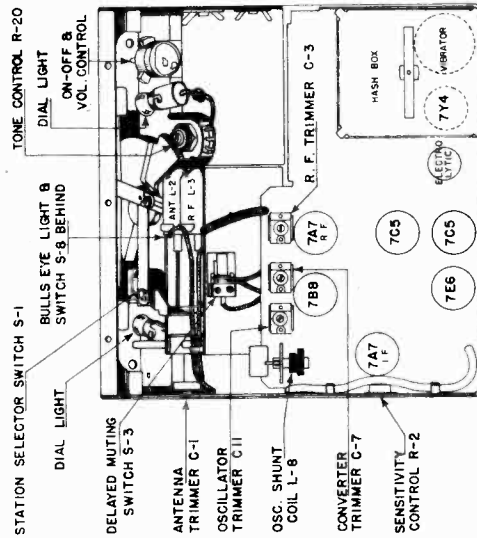

Fig. 10. Bottom View of Chassis
6. Adjust oscillator trimmer C-11 (Fig. 10 at 1700 Kc.
7. Adjust converter trimmer C-7, R.F. trimmer C-3, and antenna trimmer C-1 (Fig. 10) for maximum output reading.
13. "Rock in" shunt oscillator coil L8 (Fig. 10) for maximum output reading. This should be done only as a last resort. This is the same as rocking in the paddler condenser on a ganged condenser receiver.
4. Adjust oscillator trimmer C-11 (Fig. 10) for maximum response.
7. Adjust converter trimmer C-7 (Fig. 10) and P.F. trimmer C-3 (Fig. 10) for maximum response.